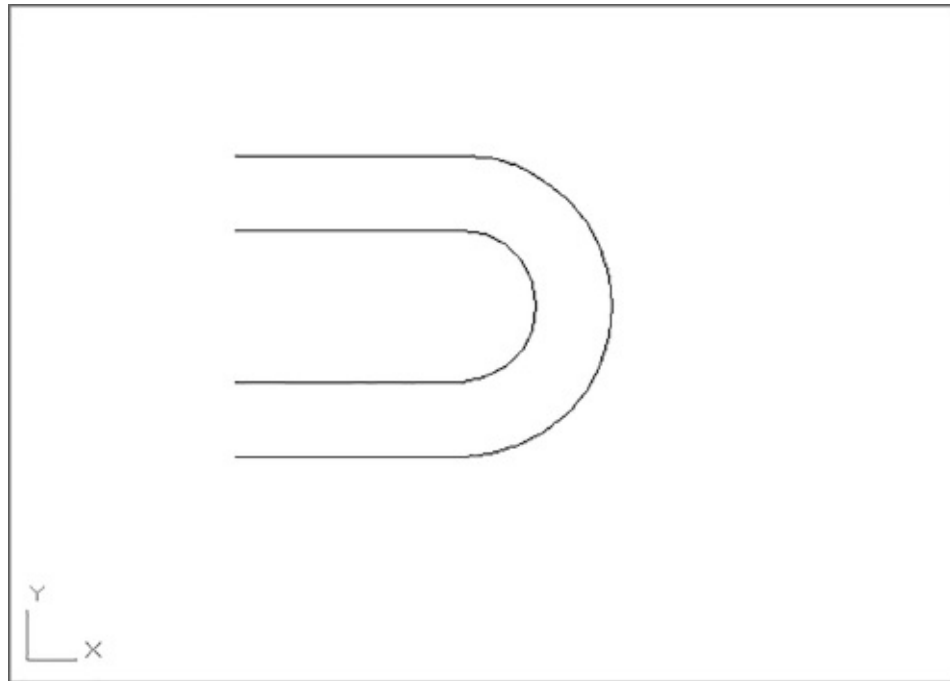

FIGURE 18.4 The offset polyline
4. At the Specify point on side to offset or [Exit/Multiple/Undo] <Exit>: prompt, pick a point on the inside of the U shape. You'll see a concentric copy of the polyline appear (see Figure 18.4).